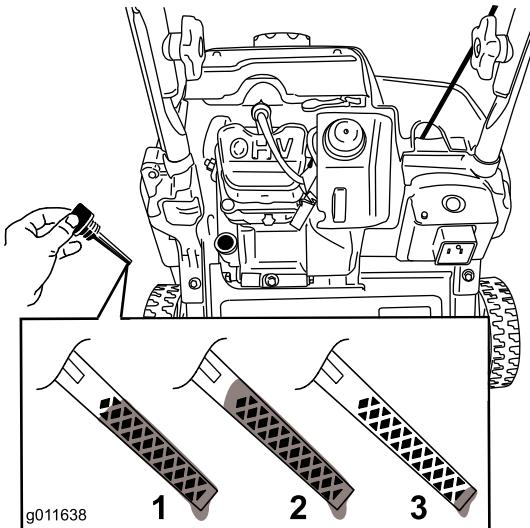

Figure 29
**Note:** To determine the proper oil level on the dipstick, refer to Figure 29.
**Note:** Fill the engine crankcase with oil until the dipstick indicates that the engine oil level is correct as shown in Figure 29. If you overfill the engine with oil, remove the excess oil from the drain plug into an oil drain pan.